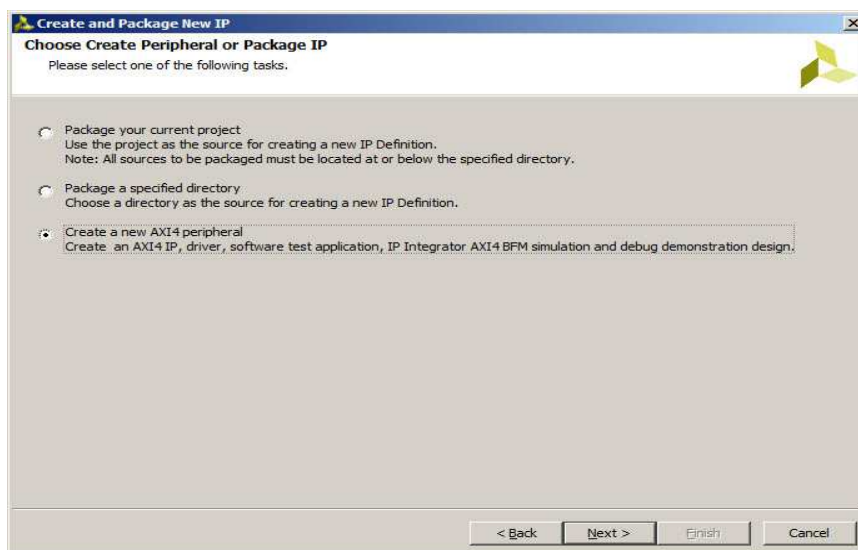

Figure 14: Create a new AXI4 Peripheral
1. With the base Vivado project opened, from the menu select **Tools**→ **Create and package IP**. A new window will appear as seen in **Figure 14**.